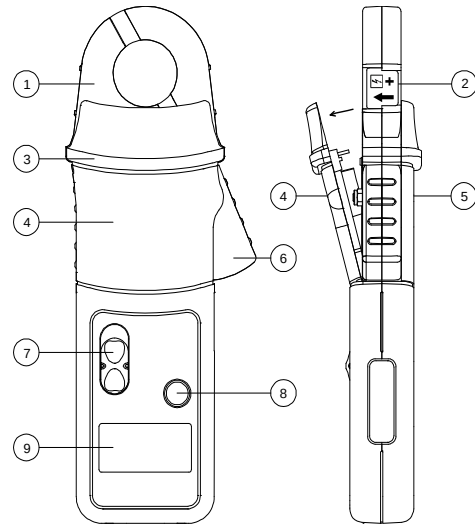

FIG 1
- Do not hold the clamp meter anywhere beyond the tactile barrier see FIG 1.
When the Low Battery symbol is illuminated in the display the minimum battery voltage has been reached. Refer to Fig. 1 and use the following procedure to replace the battery.
Loosen the captive screw which secures the battery cover. Lift the cover through 30° and pull it clear of the body as shown in Fig 1. Replace the battery and re-fit the battery cover and fasten the screw.
Safety in its use is the responsibility of the operator who must be a suitably qualified or authorised person. Ensure that your fingers are behind the **protective barrier** see FIG 1 when using the clamp meter. Always inspect the clamp meter for damage before use.